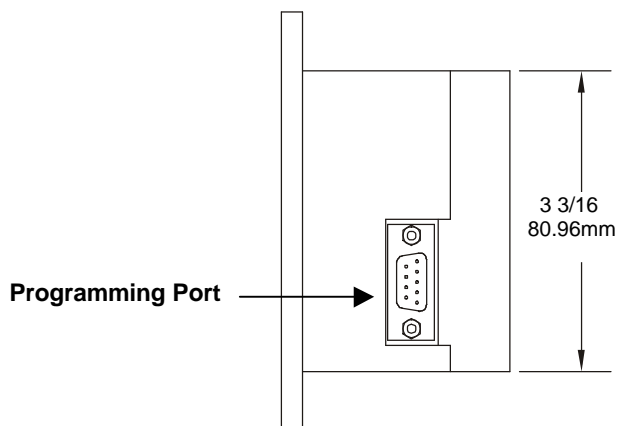

Figure 2.1 –Right-end View
2. Cut the host panel as described in the Figures 2.1 – 2.6.